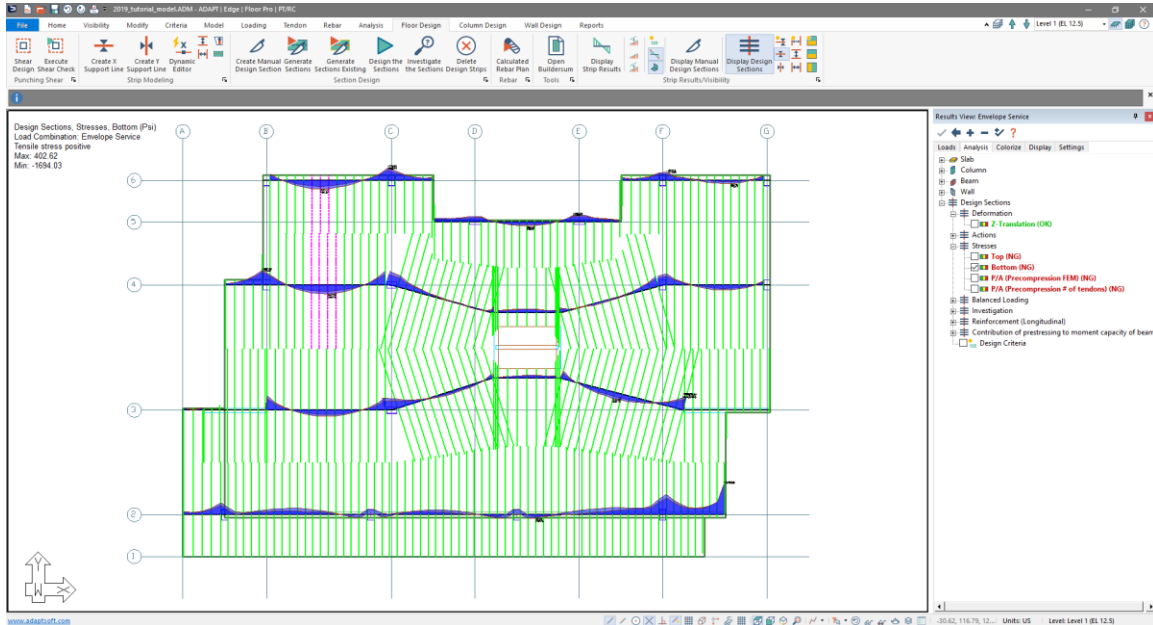

Figure 9-86
- The user should now see the bottom stress values along the X-direction support lines as shown in **FIGURE 9-86**.